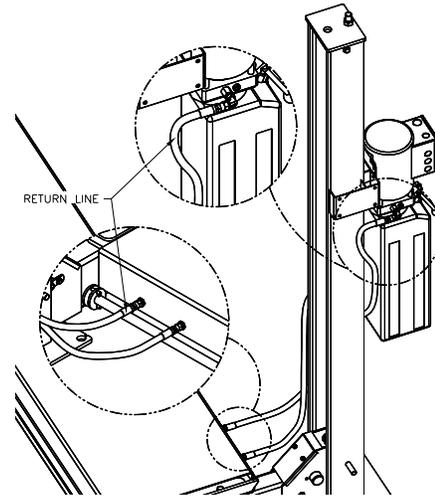

Fig 19 – Return Line, Side
- 36) Remove the 3/8-18 NPT plug on the side of the power unit and attach the 90 degree elbow, Fig 19.